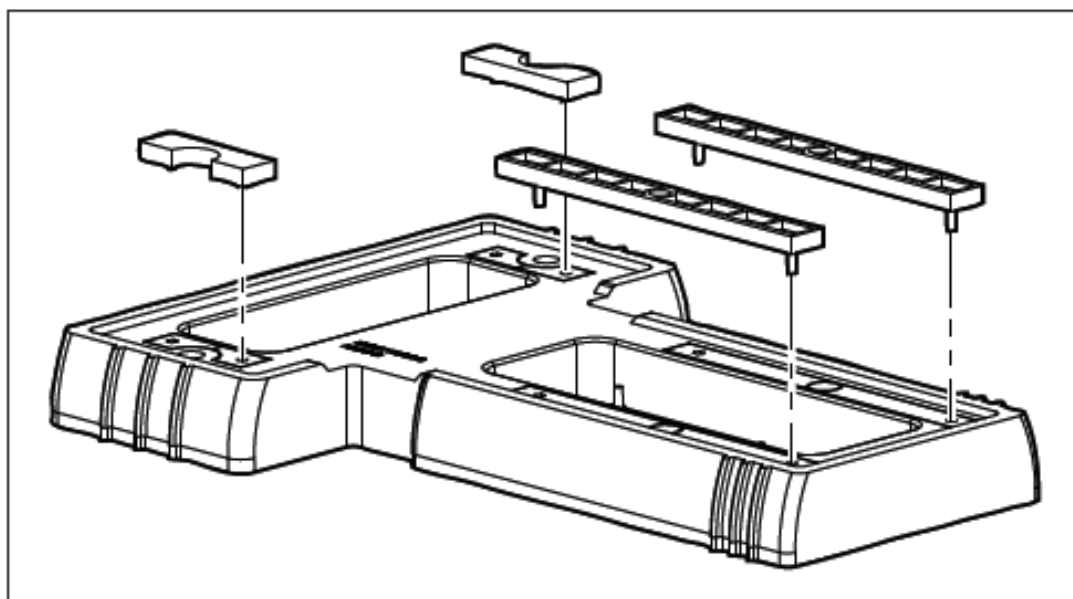

Figure 7. Snap Spacers Into Place
3. Align the pins in the four spacers with the holes in the base. Snap the spacers into place (Figure 7).